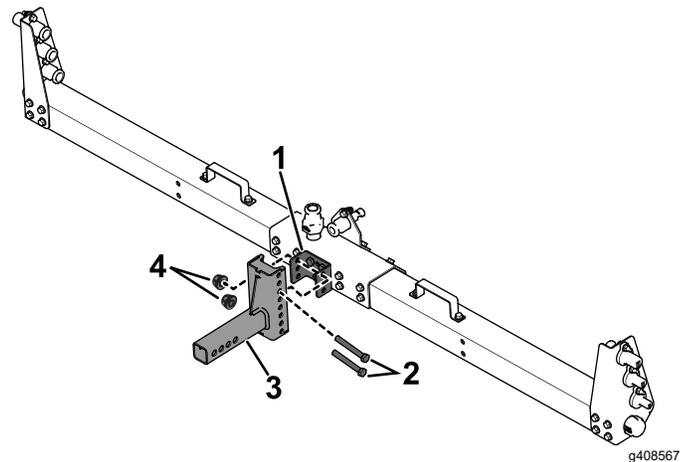

Figure 21
- 1. Connect the tow hitch to the boom height bracket with 2 bolts (1/2 x 1-1/4 inches) and 2 locknuts (1/2 inch) as shown in Figure 21.